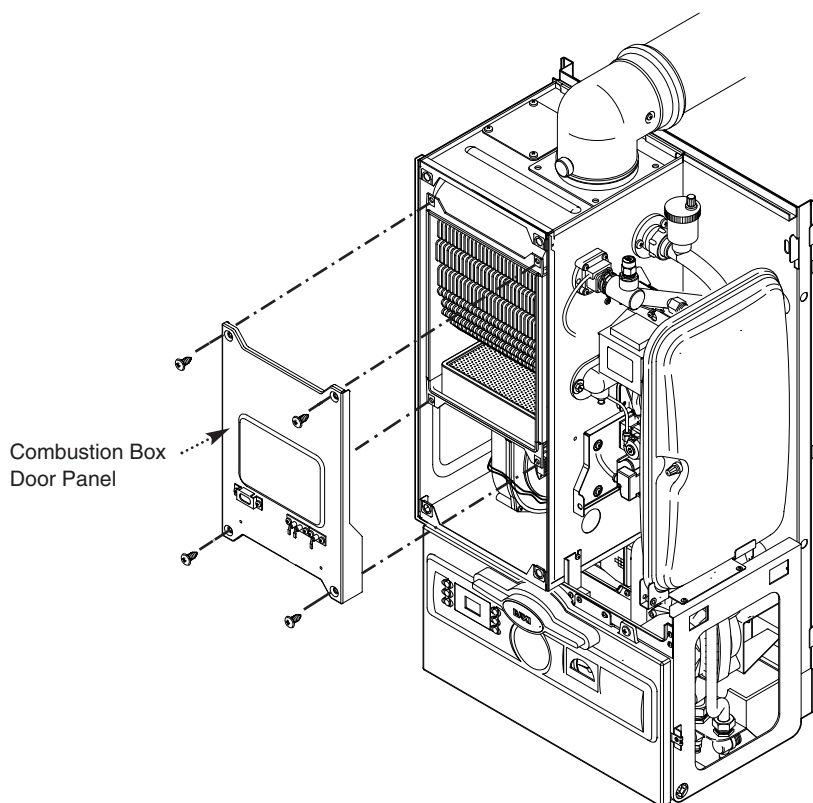

Fig. 52
8. Undo the four screws securing the combustion box door and remove the door (Fig. 52).